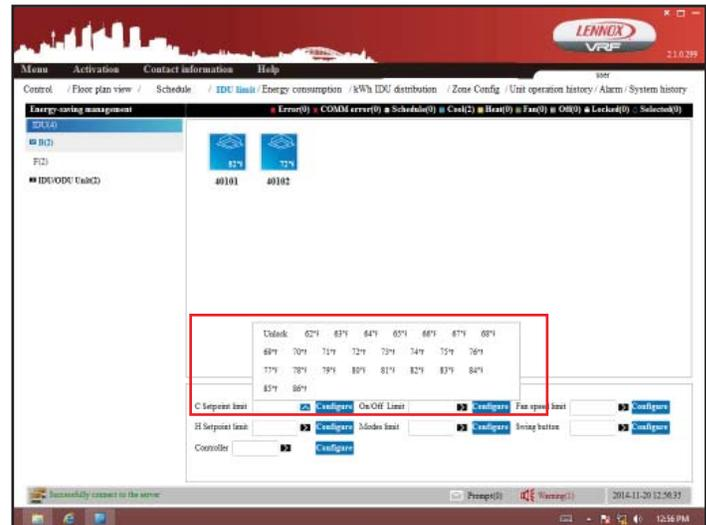

Figure 39. Set Cooling Setpoint Limits
1. Tap the C Setpoint limit field to modify the Cooling setpoint limit. See figure 39.